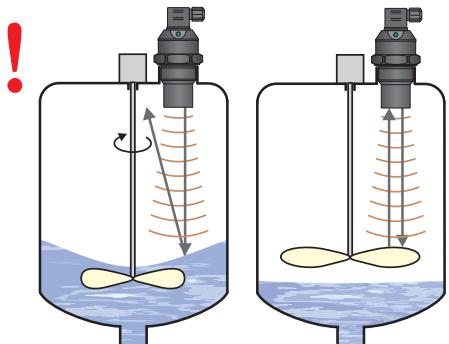

Fig. 12: Strongly stirred surface Fig. 13: False reflection from mixer blades
- False surface reflections of the ultrasonic signal and unreliable operation of the device might result from the mixer's **rotating blades** that ripple the surface level (Fig. 12).